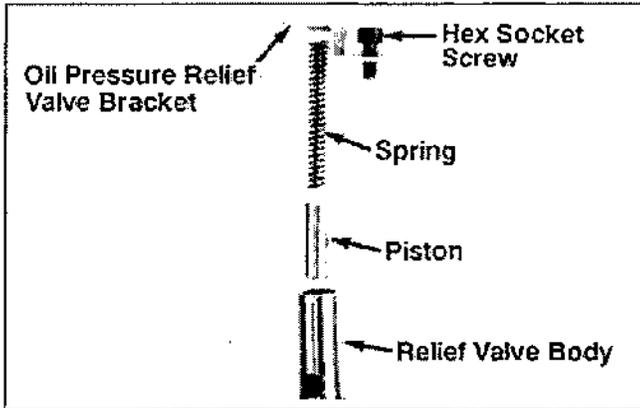

Figure 11-14. Installing Oil Pressure Relief Valve Body, Plunger, And Spring.
2. Insert the piston and spring into the body. See Figure 11-14.
3. Install the bracket and hex flange screw. See Figures 11-14 and 11-15.